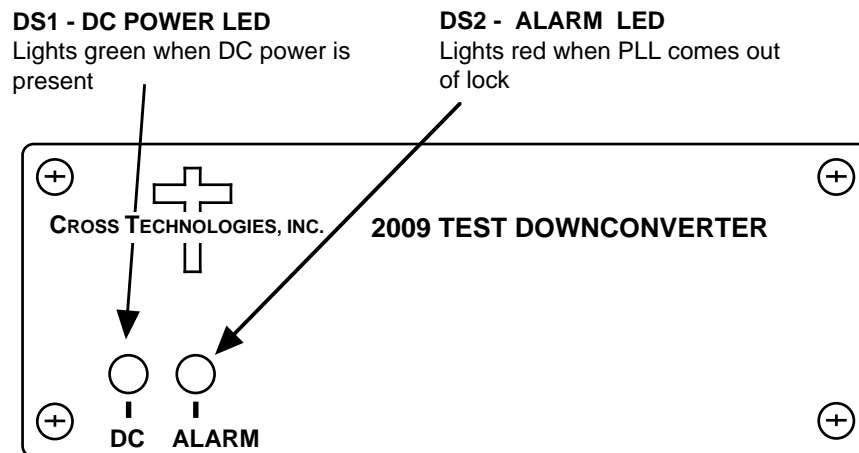

FIGURE 2.2 Model 2009-38 Front Panel Indicators
2.2 Front Panel Indicators - Figure 2.2 shows front panel indicators.
- 4.) Be sure DS1 (green, DC Power) is on and DS2 (red, Alarm) is off (Figure 2.2).